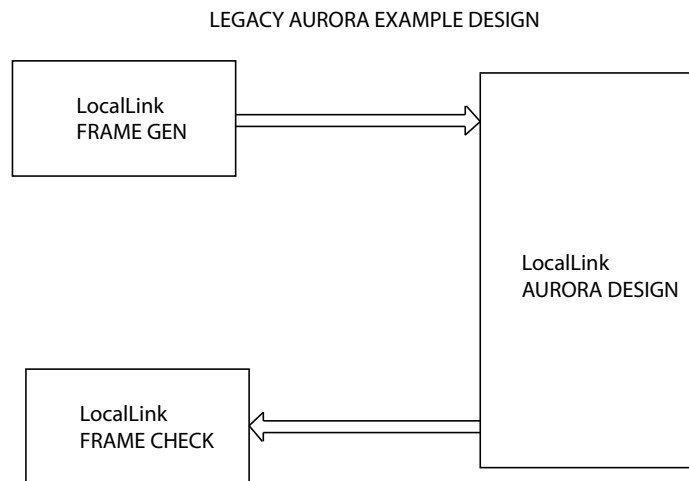
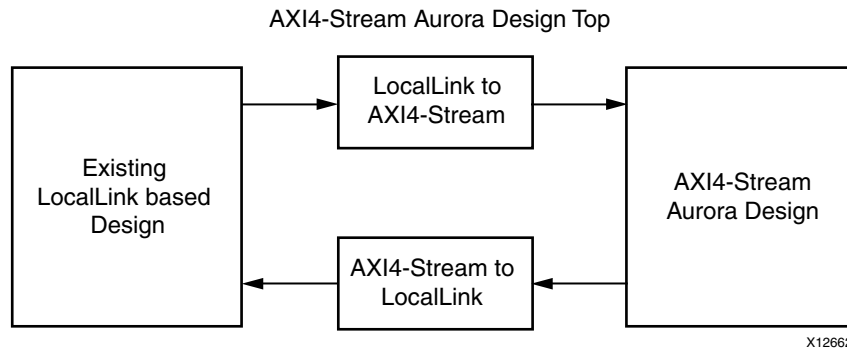

Figure B-1: Legacy Aurora Example Design
Figure B-2: AXI4-Stream Aurora Example Design
Figure B-1 shows an example Aurora design using the legacy LocalLink interface. Figure B-2 shows an example Aurora design using the AXI4-Stream interface.
2. See Figure B-2, page 103 for the emulation of a LL Aurora core from a AXI4-Stream Aurora core.
5. Connect the shim and AXI4-Stream Aurora design as shown in Figure B-2, page 103.